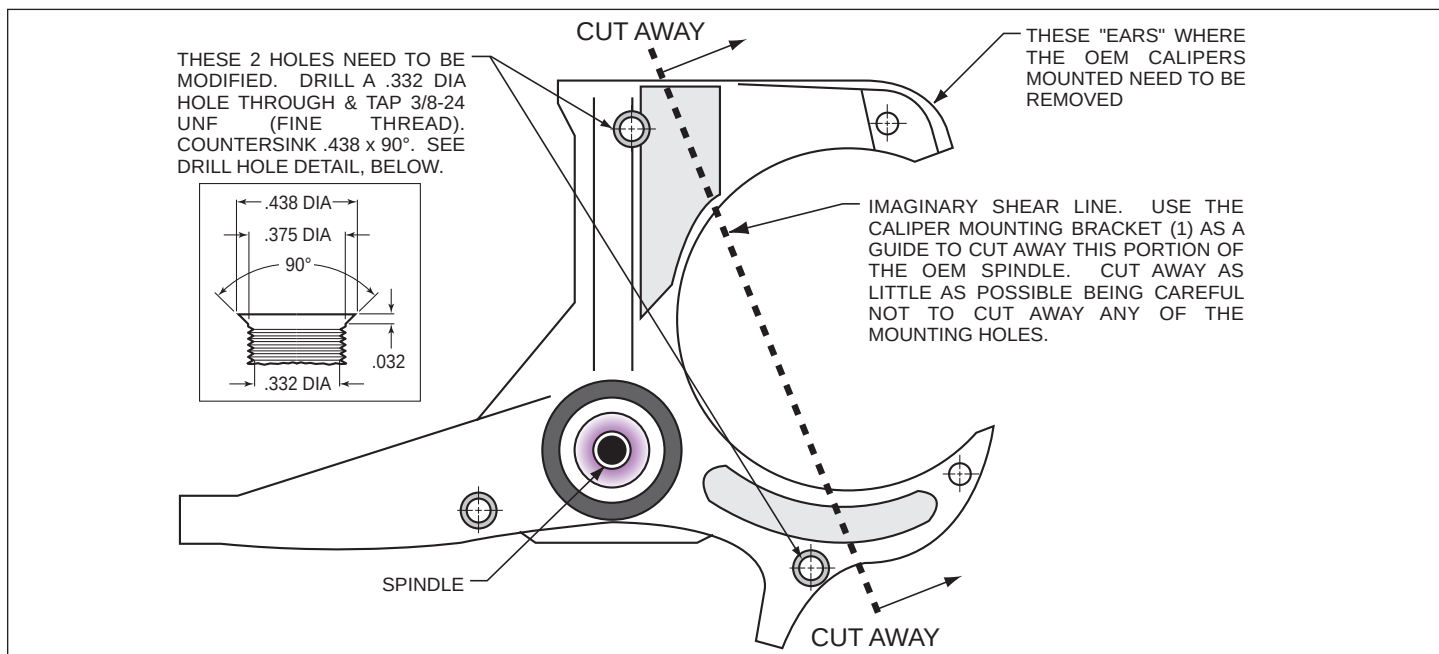
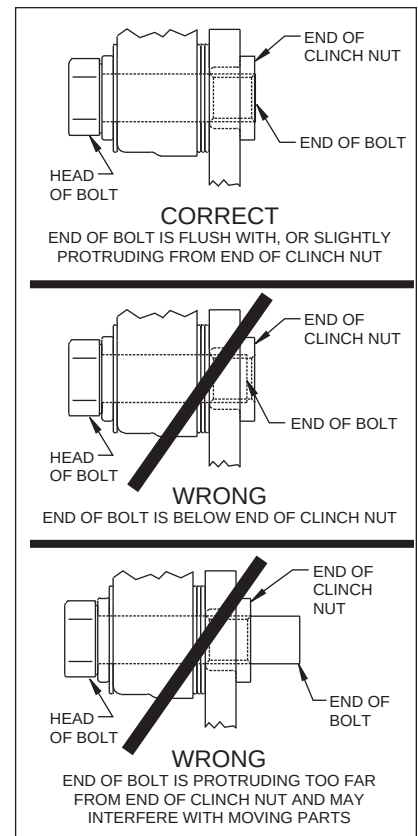

Figure 1. Steering Arm / Spindle Modifications
Figure 4.
These modifications should be performed by a qualified machinist. Refer to Figure 1 as necessary (numbers in parenthesis refer to the parts list). Only one view of the steering arm/spindle is shown, but the modifications need to be performed on both steering arm/spindles.
- Mount the adapter/rotor assembly (8/9) to the hub (5) using bolts (11), as shown in Figure 1. Using an alternating sequence, apply red *Loctite*® 271 to the threads, and torque to 55 ft-lb.
- Pack the small outer bearing cone (12) with high temperature disc brake bearing grease and install into front of hub (5). Slide the hub/rotor assembly (5 and 9) with outer bearing cone (12) onto the spindle. Secure using stock washer, adjusting nut and nut locking device.
- Install the dust cap (15) onto the hub (5). Friction created by the o-ring (14) on the dust cap (15) keeps it from unscrewing. The O.D. of the existing spindle washer may be larger than the I.D. of the dust cap (15) not allowing it to seat against the hub face. Therefore, use the spindle washer (13) supplied with the kit instead of the stock washer.
•**NOTE:** Please reference the caution statement at the beginning of the assembly instructions. Mount the caliper (16) onto the caliper mounting bracket (1) using washers (17) and bolts (18). Finger tighten. View the rotor (9) through the top opening of the caliper (16). The rotor (9) should be aligned in the center of the caliper (16). If not, adjust the caliper (16) by using 0.032 inch thick shims (19) placed between the caliper mounting bracket (1) and the caliper (16). Add as many shim washers (19) as necessary to achieve the correct alignment. Add as many shim washers (19) as necessary to achieve the correct alignment. **NOTE:** The end of the bolt must be flush with or slightly protruding from the head of the clinch nut. See Figure 4. Place spare shims (19) between washer and caliper mounting ear to achieve the proper mounting fastener configuration. Always use the same amount of shims on both the top and bottom caliper mounting bolts (18). Finger tighten and recheck alignment, adjust as necessary. Apply red *Loctite*® 271 to bolt threads (18) and torque to 40 ft-lb. Caliper mount bolts may be safety wired for additional security.
- Install the disc brake pads (20) into the caliper (16).
- Secure the disc brake pads to the caliper utilizing cotter pin (21).